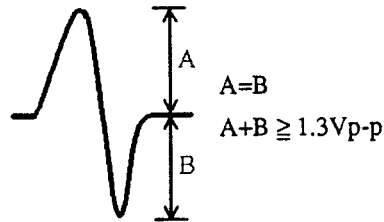

Fig. 8
3. When the TRACK FWD  $\llcorner\llcorner$  key is pressed while observing the oscilloscope screen, the waveform shown in Fig. 8 can be observed instantaneously. Confirm that the amplitude in this state is 1.3 Vp-p or more and that the amplitude is nearly equal on positive and negative sides. Since the waveform appears only instantaneously when the TRACK FWD  $\llcorner\llcorner$  key is pressed, repeat pressing this key until confirmation of the waveform is completed.